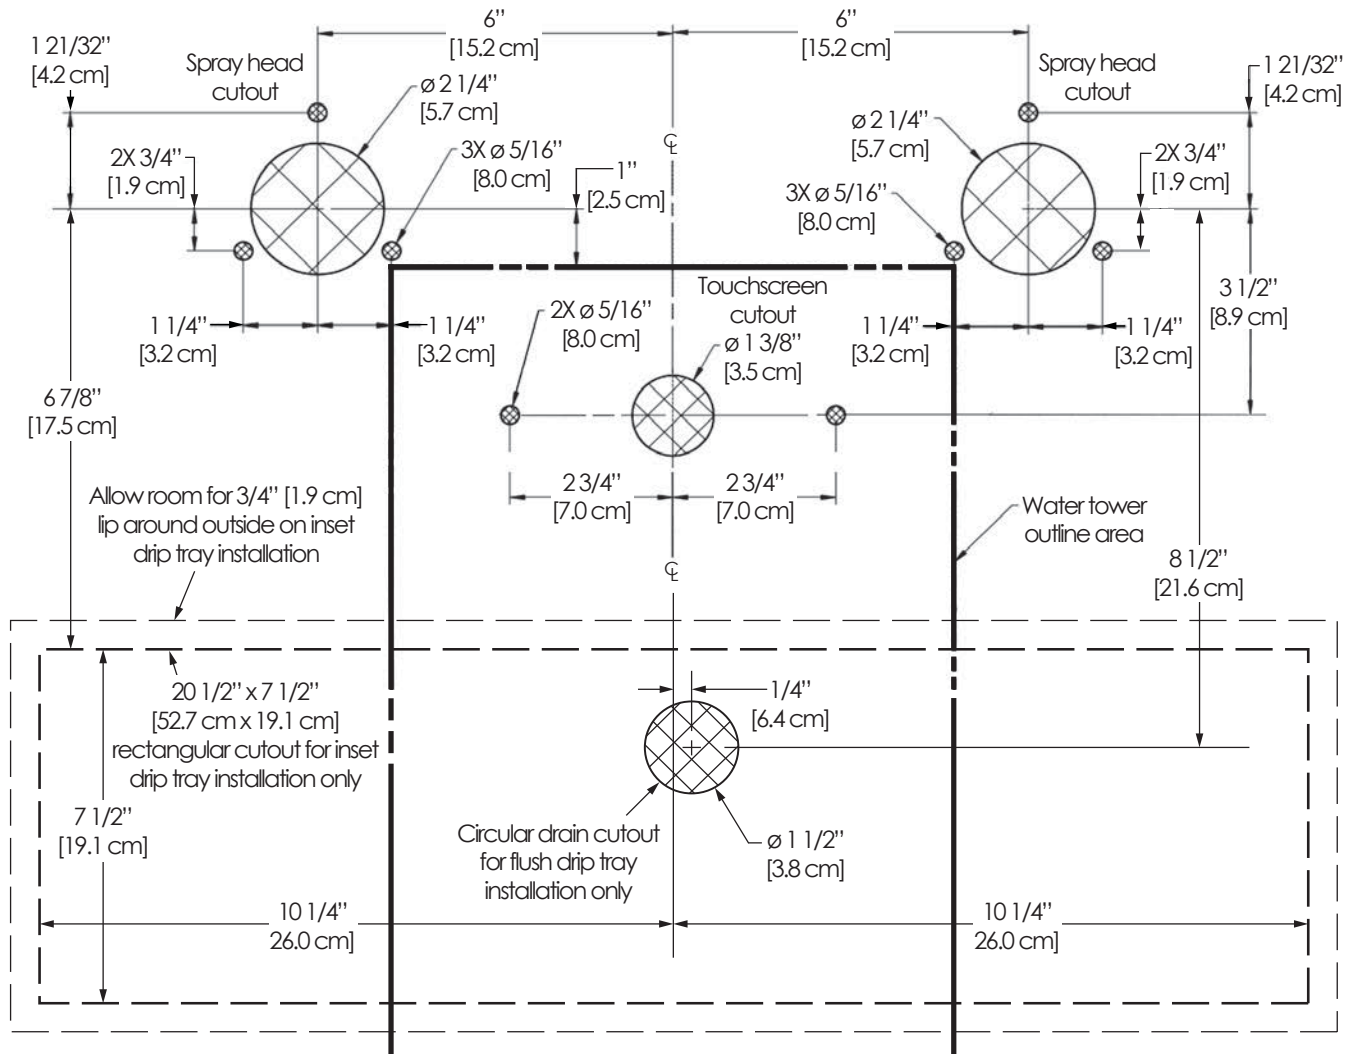

Figure 3 - Hole Pattern Template for Cutting and Drilling Countertop (Drawing Not to Scale)
- 7 Holes must be cut into the counter top prior to installing the brewer. The hole pattern is critical for proper operation. See *Figure 3* on the following page. The two brew heads must fit within a 2 foot by 3 foot area.
Packed with the unit is a full-size template (Part # WC-390245). Use the template for cutting the required holes needed for installing the brew heads, touchscreen and drip tray. The two largest circular holes are for the brew head assemblies, along with three stud holes for the mounting plate for each head. Also, there is a circular hole for the touch screen, along with the two mounting holes. The drip tray can be inset into the counter or mounted flush. Inset installation is recommended. The rectangular hole shown in *Figure 3* is for inset installation. If the drip tray will be mounted flush, a circular hole is drilled in the location shown for the drain instead of a rectangular hole.
- 21 Center the water tower between the two brew heads under the countertop. Refer to the hole pattern drawing (Figure 3) for the proper location. Level it left to right and front to back by turning the bottom of the legs.